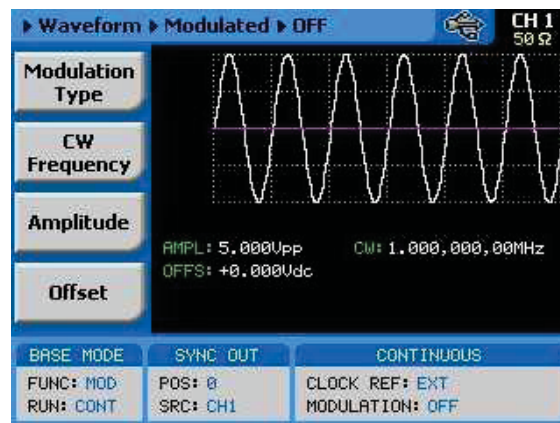

Figure 3-22, Modulation OFF Parameters
The Modulation Off is a special case of the modulation function where the output is not modulated but generates carrier waveform (CW) frequency only. CW is the sine waveform that is being modulated. When placed in Modulation Off, the sine waveform is generated from the main outputs continuously. Figure 3-22 shows the Modulation Off menus.